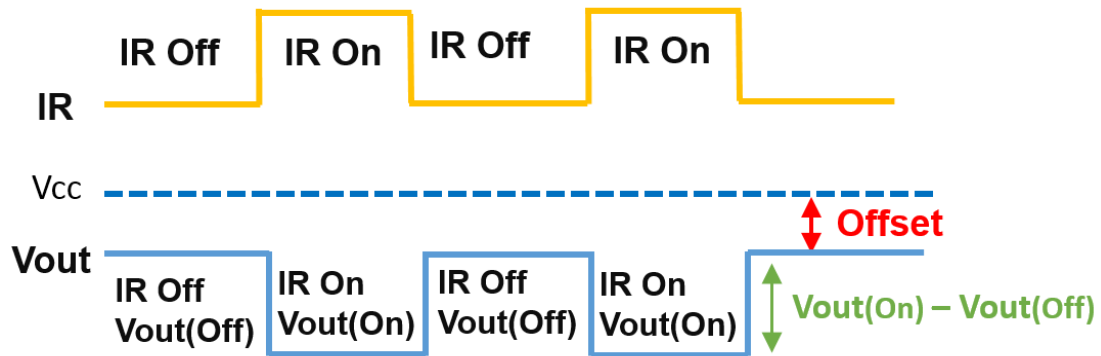
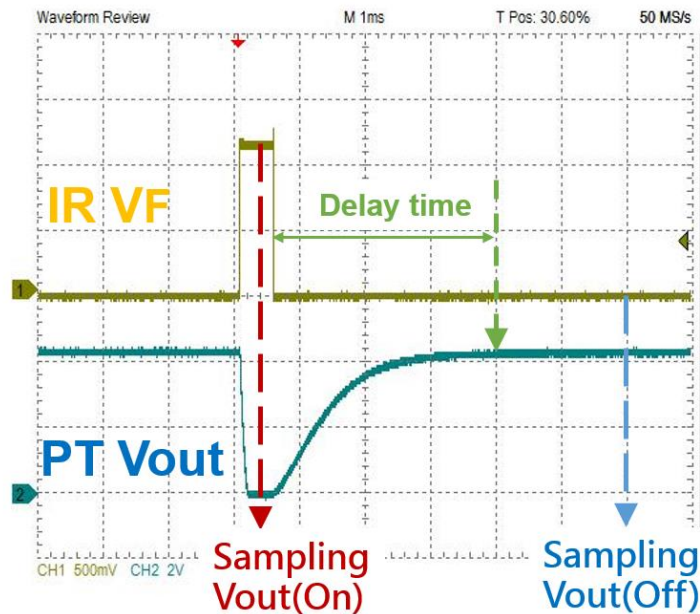
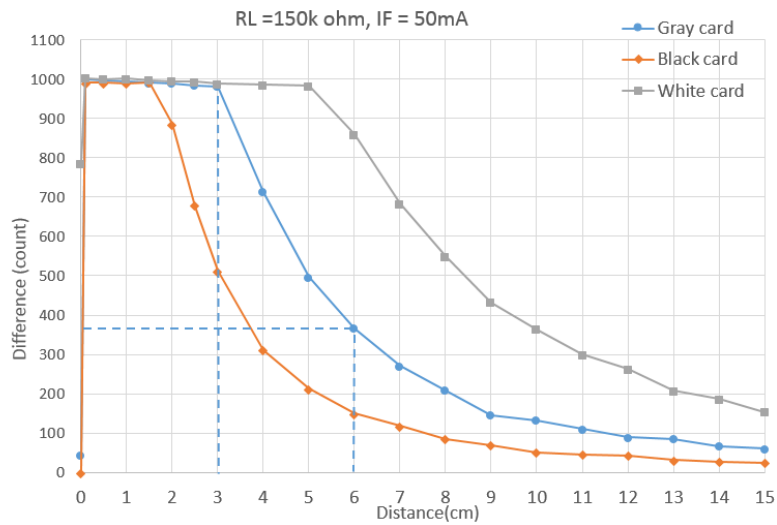

Figure 4. Ways to improve ambient light interference
Figure 5. PT output voltage waveform detection
Figure 7. Effects of different color DUTs on ADC readings
If the direct current (DC) detection method is used, it is easy to cause misjudgment when the ITR is illuminated by ambient light. The reason is that the PT end cannot distinguish whether the received irradiance is from ambient light or whether the IR is reflected by the object. The improvement method is shown in Figure 4. Change the IR transmission mode from DC to Pulse, and then the PT needs to detect the voltage values $V_{out}(\text{Off})$ and $V_{out}(\text{On})$ at each IR Off and IR On respectively. At this time, $V_{out}(\text{Off})$ represents the offset value (Offset) caused by ambient light, and $V_{out}(\text{On})$ represents the ambient light plus the voltage value at the time of IR emission, so between $V_{out}(\text{On})$ and $V_{out}(\text{Off})$ The voltage difference is the voltage value caused by pure IR emission. In addition to reducing the interference of ambient light, this method also uses Pulse to light up for a short time, so it can use a stronger current drive to detect longer distances.
Figure 5 is an example of the actual output waveform of the PT. It can be found that when the IR switches from On to Off, the PT will have a delay time. Therefore, when sampling Vout (Off), you need to confirm that the PT output voltage has stabilized to avoid subsequent calculation of object detection Misjudgment when measuring variation.
Refer to the method in Figure 4 to control the GPIO and the waveform in Figure 5 to set the ADC sampling time. The following uses Everlight ITR20001 / T24 (Bin K) as an example. The IR on time is 350us, and Vout (On) is sampled at 300us. The IR Off time length is 50ms, and Vout (Off) is sampled at 6ms. Vcc = 5V, R limit = 82 ohm (IF = 50mA), RL = 150k ohm. It is recommended that the threshold is set to about 1/3 of the ADC maximum value. This 1/3 value is reserved for the use of the Offset for light interference. The larger the value is, the stronger the light interference resistance is, but the object detection range will be relatively reduced. Figure 7 shows the comparison of different detected objects after Vout is set in the above manner (the Y-axis is the ADC reading of the difference between Vout (Off) and Vout (On)). It can be seen from the figure that the lighter the color of the reflective object, the higher the reflection amount, and the larger the range of the detectable distance. Generally, a gray card is used as a design reference. This picture is taken as an example. The judgeable range of the gray card is about 0.1 ~ 6cm, black card is 0.1 ~ 3.5cm, white card is 0.1 ~ 9.5cm.